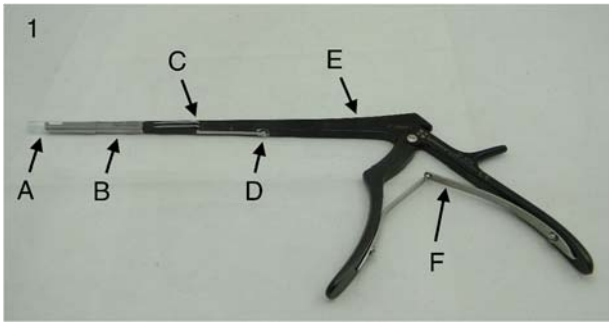

Figure 1
2. Check the tip release levers and the safety-locking lever (see figure 1) for function by depressing and releasing them. If any of the levers fail to depress (Note: the bottom tip release lever will only depress if the safety-locking lever is depressed) or do not spring back after release, return the handle for service.